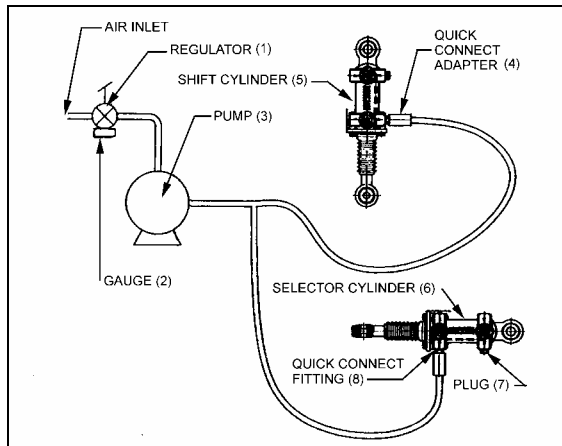

FIGURE 13: DIAPHRAGM PUMP CONNECTION 07034
3. Connect the diaphragm pump and the quick connect adapters to both cylinders (4 and 8, fig. 13);
4. Loosen by $\frac{1}{2}$ to 1 full turn both the quick connect and the plug (7 and 8, fig. 13) on selector cylinder;
5. Use regulator (1, fig.13) and gauge (2, fig.13) to obtain 60 psi at pump inlet;
9. Close quick connect and plug (7 and 8, fig. 13) on the selector cylinder;
10. Check hydraulic shifter assembly; move the shift lever from left to right and check if the selector cylinder (6 fig. 13) moves accordingly;
11. Loosen by $\frac{1}{2}$ to 1 full turn both the quick connect and the plug on shift cylinder (fig. 13);
16. Check hydraulic shifter assembly; move the shift lever from front to back and check if the selector cylinder (6 fig. 13) moves accordingly;